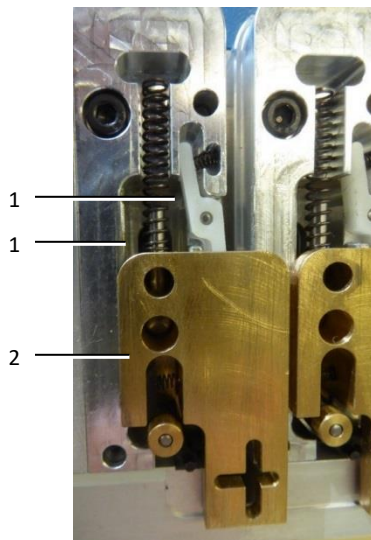

Fig. 28: Transport unit
- Apply oil very sparingly to the aluminium on both sides (fig. 28, item 1) of the guide groove.
- Move the brass slide forwards and backwards (fig. 28, item 2) to distribute the oil.